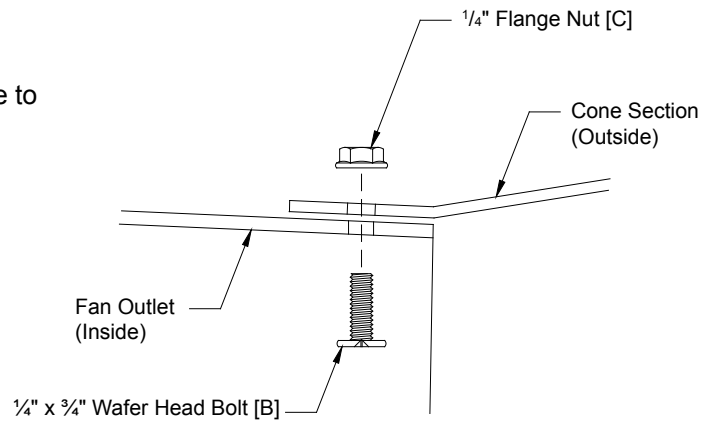

Figure 6
Lift cone assembly up and slide onto outlet of fan and fasten using (4) Fasteners [B] and [C]. **See Figure 6.** Finger tighten only. Bolts must be installed from inside to outside.